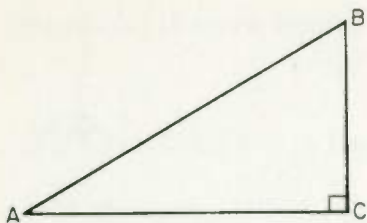

Fig. 1 A right triangle.
6 THE RIGHT TRIANGLE... The triangle in Fig. 1 is called a *right triangle* because one of its sides, *BC* (the line extending between points *B* and *C*), is perpendicular to one of the other sides, *AC* (the line extending between points *A* and *C*). That is, side *AC* is "square" to side *BC*. The angle at *C* is 90° and is called a *right angle*.
The longest side of a right triangle is called its *hypotenuse*. The hypotenuse is always opposite the right angle. The other two sides are called the *legs*. In Fig. 1, *AB* is the hypotenuse and *AC* and *BC* are the legs.
where AB , AC , and BC are all sides of the triangle as shown in the Fig. 1.
EXAMPLE . . . In Fig. 1, if $BC = 32$ and $AC = 21$, $AB = \underline{\hspace{2cm}}$.
1. In Fig. 1, if $BC = 2.1$ and $AC = 1.69$, $AB =$ 2.70.